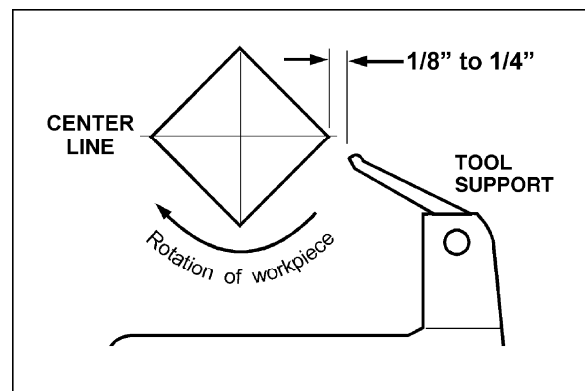

Figure 25
10. Move tool rest into position. It should be parallel to workpiece, just below the centerline and approximately 1/8" to 1/4" from the corners of the workpiece to be turned, as in Figure 25. Tighten tool rest base to Lathe bed.